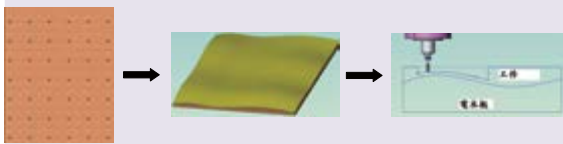

Fig.3
- c) Read the production program of "Remaining Thickness" and run the depth routing action. (Fig.2 & Fig.3)